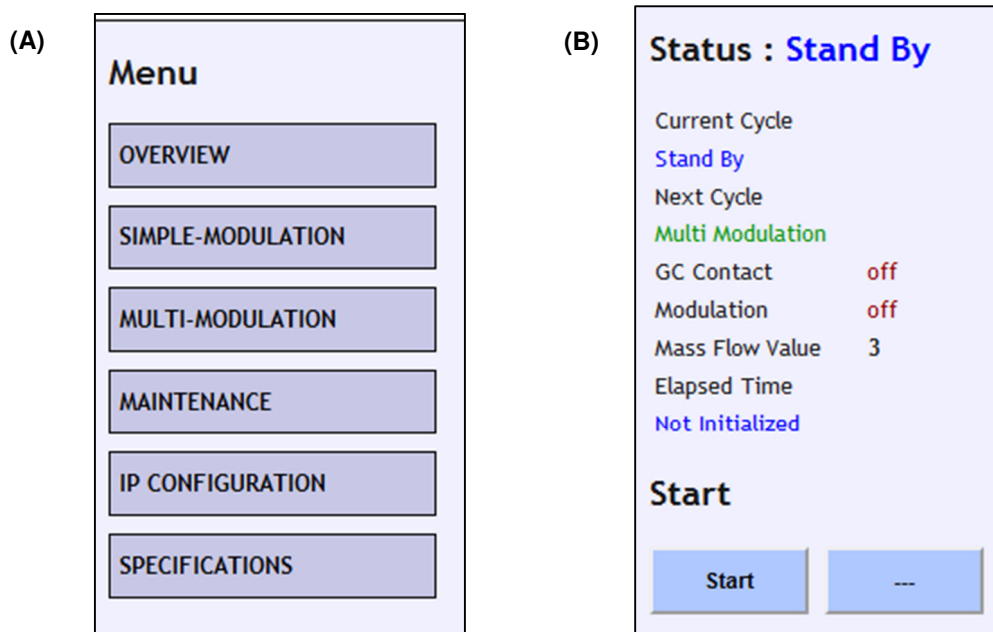

Figure 5 : Side Bar.
The navigation bar (Figure 5 (A)) is on the left side up to the status section (Figure 5 (B)). Information displayed in the status section concerns the software. The start button is the software equivalent of the GC start. Next to the software start is the pause button, disabled in Stand by.